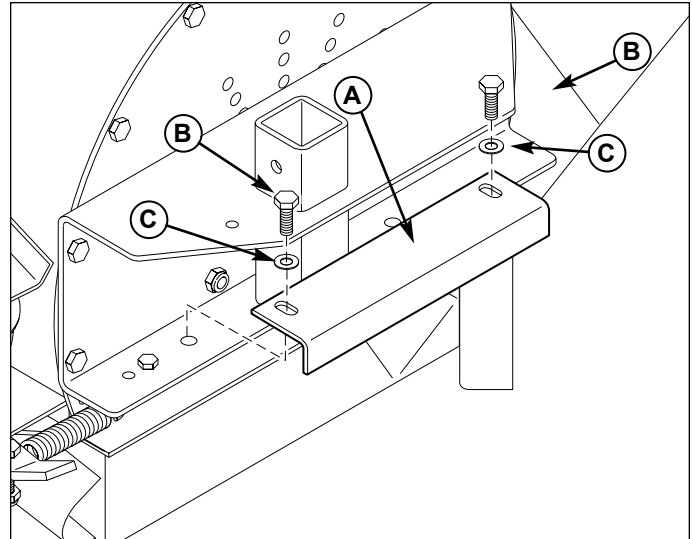

Figure 28. Install Blower Brace
11. Loosely install the blower brace (A, Figure 28), 3/8-16 x 1" bolts (B) and 3/8" washers (C) as shown. These fasteners will be tightened in a later step.